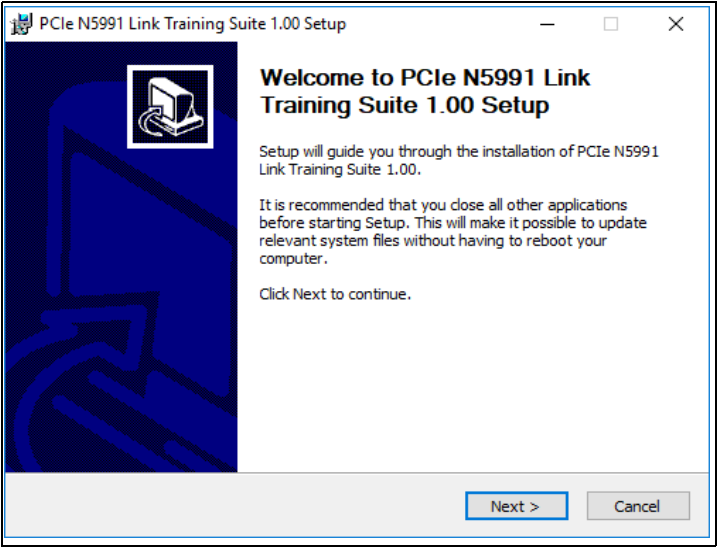

Figure 1 Installer Wizard
- Execute the installer file “PCIeLinkTrainingSuiteInstaller” (see Figure 1)